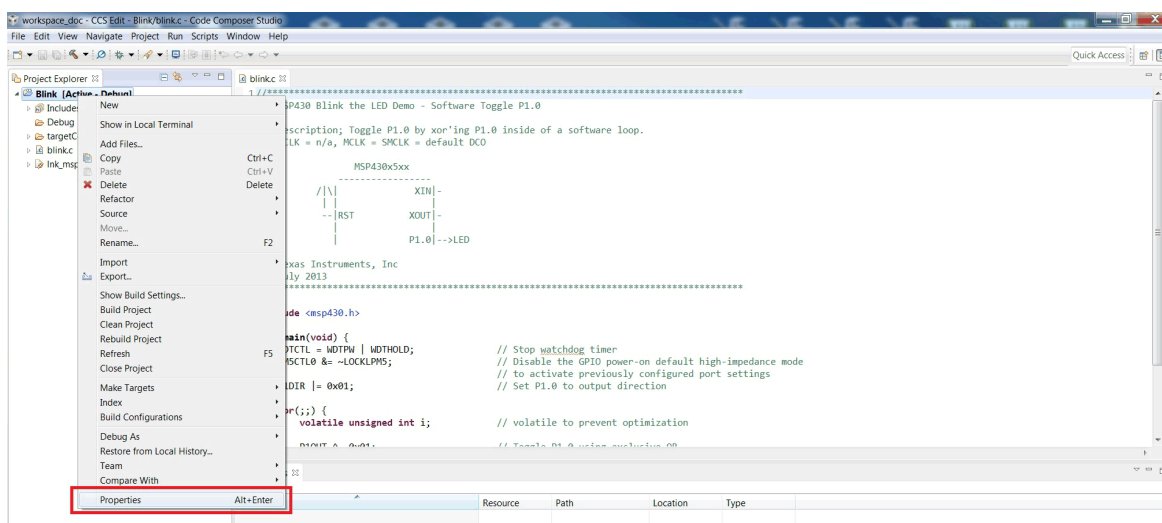

Figure 3. CCS – Project Properties
1. In the CCS project (Figure 3 shows the Blink LED project example), right click the Project and select **Properties**.